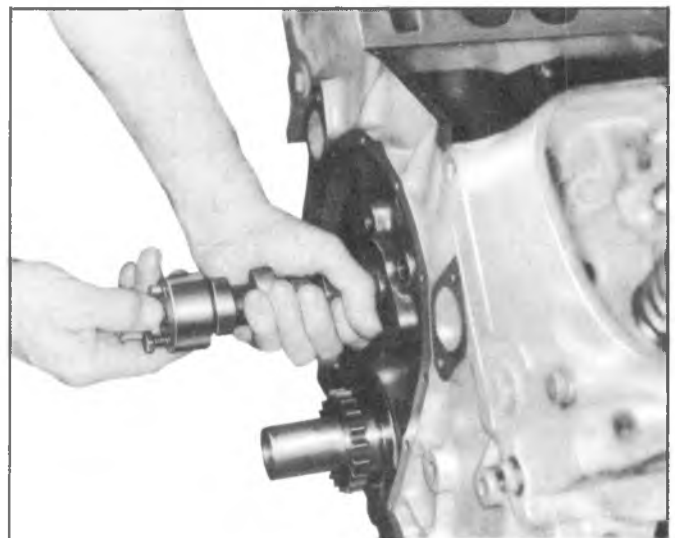

Fig. 6A-45V--Removing Camshaft
6. Install two 5/16" x 18 x 4" bolts in camshaft bolt holes then remove camshaft (fig. 6A-45V).